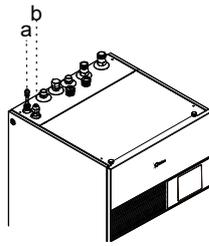

Fig.6-6
- If the indoor unit is matched with outdoor unit (4/6 kW), the transfer 9.52-6.35(Refer to the table in Page 8) should be mounted on the refrigerant liquid connection of indoor unit(Refer to Fig.6-6); The transfer is not used in other types of outdoor unit(8/10/12/14/16 kW).